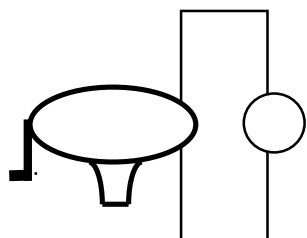

Figure 11.17a
1. Use a Genecon to light a long bulb as shown in Figure 11.17a. Try to keep the bulb brightness constant. (To provide a comparison brightness for you to match, light a long bulb in a circuit with two D-cells.)